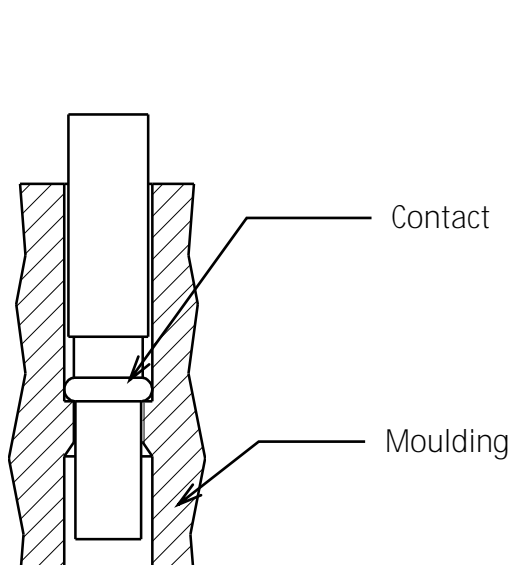

Figure 2
4. Place the crimped contact partially into the moulding. The correct position is reached when approximately 1.5-2mm of socket protrudes (see Figures 2 and 3).